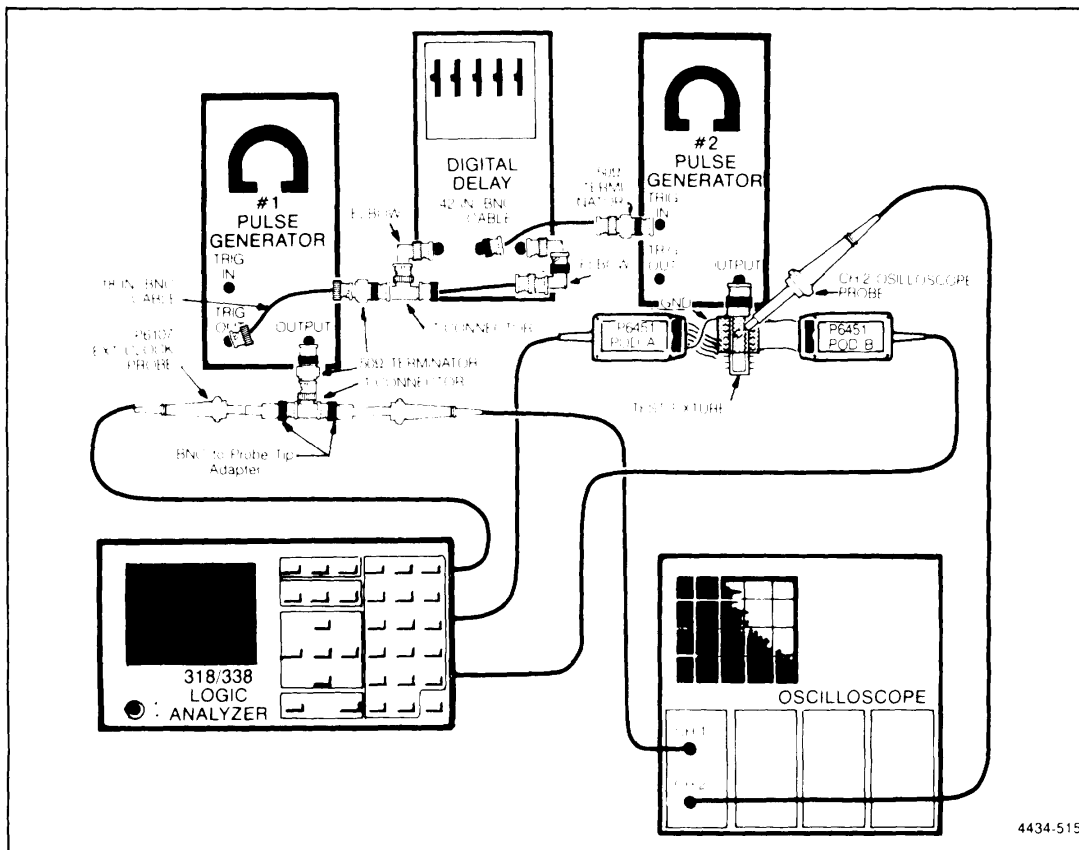

Figure 5-28. 318 Parallel data acquisition test setup.
Refer to Figure 5-28.
3. Connect a BNC elbow to the Digital Delay's EVENTS INPUT. Connect a BNC T-connector to the elbow. Connect one side of the T-connector to the #1 pulse generator's + TRIG OUT using an 18 inch BNC cable and a 50 Q terminator. Connect the other side of the Digital Delay's BNC T-connector to the Digital Delay's START INPUT (see Figure 5-28). Using 2 BNC elbows and a BNC female-to-female connector will help here.